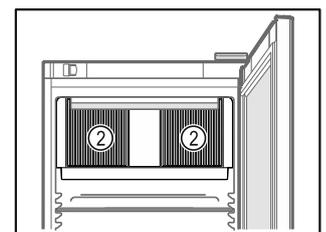

Fig. 31
- ❑ Ventilation slots *Fig. 31 (2)* for recirculation fan in the interior must be kept clear.